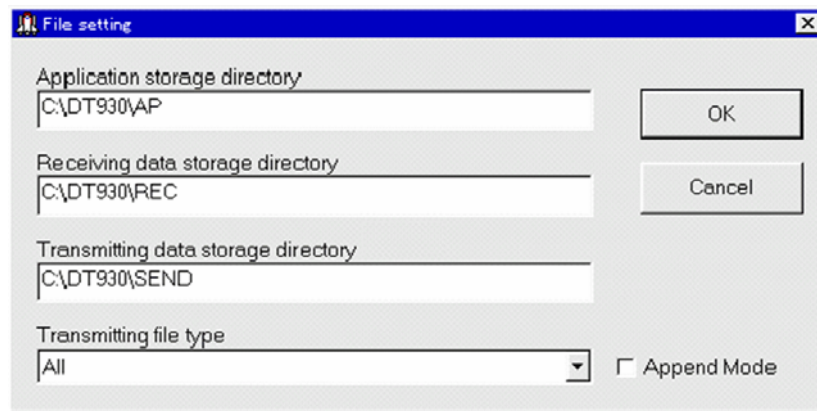

Fig. 2.4
2. Select **File setting** in **Settings (F)** menu and specify 'C:\DT930\AP' in **Application storage directory** field (see Fig. 2.4). Note that your input in the field will not be accepted if the directory does not exist on the PC.